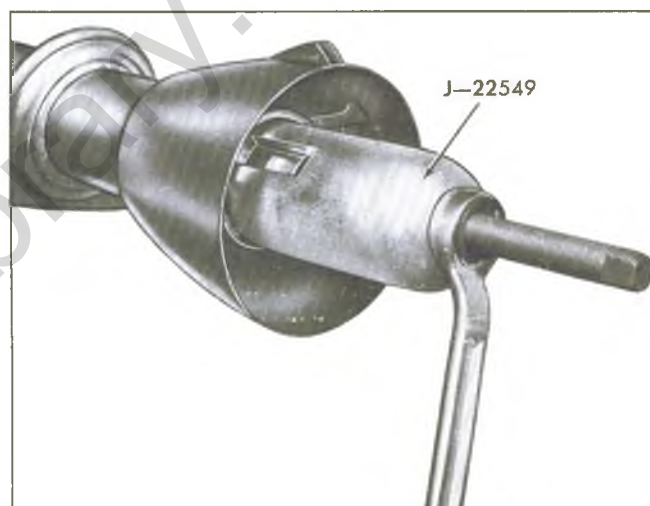

Fig. 99—Installing Shift Pin Tube
5. Carefully install the shift tube into the lower end of the column (make sure the foam seal is at the lower end of the shift tube). Align the keyway in the tube with the key in the shift lever housing and complete installation of the shift tube using Tool J-22549 (fig. 99). The shift lever housing key must bottom in the shift tube slot to be fully installed. Remove Tool